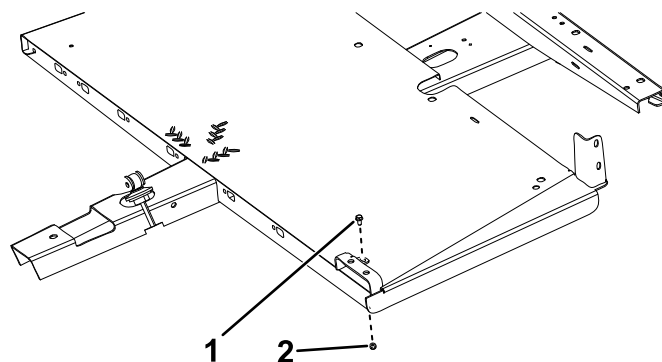

Figure 5
2. Secure the floor mounts to the top of the frame as shown in Figure 5.